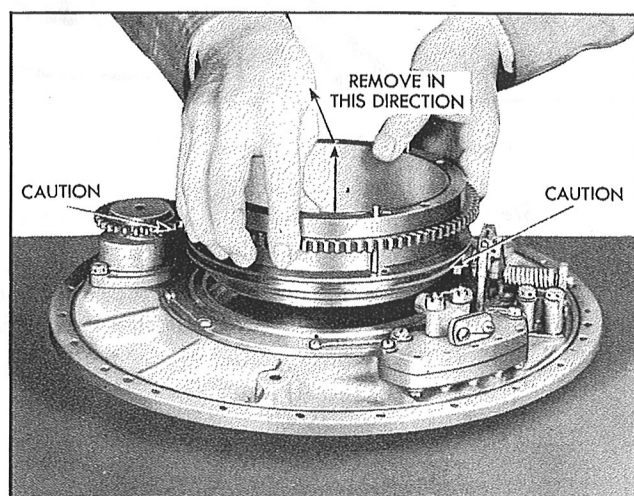

Figure 135—Removal of the Regulator Gear
*Step 15.*—Lift the regulator gear from the housing, as shown in Figure 135, until the regulator gear is out of mesh with the oil pump gear and is clear of the regulator housing. Then move the regulator gear sideways to disengage the control ring from the governor carriage shoe.